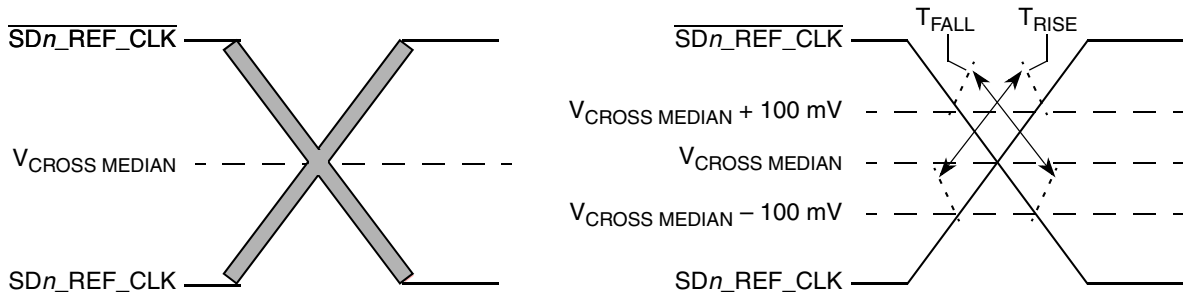

Figure 41. Single-ended measurement points for rise and fall time matching
- Matching applies to rising edge for SD_REF_CLK n and falling edge rate for $\overline{\text{SD_REF_CLK}}_n$. It is measured using a 200 mV window centered on the median cross point where SD_REF_CLK n rising meets $\overline{\text{SD_REF_CLK}}_n$ falling. The median cross point is used to calculate the voltage thresholds that the oscilloscope uses for the edge rate calculations. The rise edge rate of SD_REF_CLK n should be compared to the fall edge rate of $\overline{\text{SD_REF_CLK}}_n$, the maximum allowed difference should not exceed 20% of the slowest edge rate. See Figure 41.